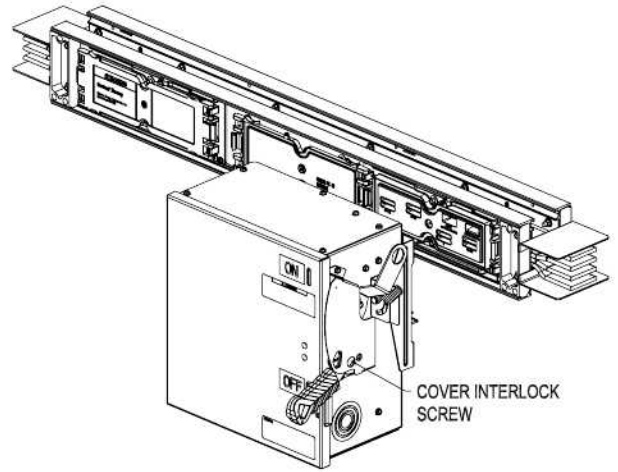

Figure 28. SENTRON SLVB Plug Horizontal Installation
11.1.3.1 SENTRON SLVB Bus Plugs utilize a Horizontal "SLVBH" and Riser "SLVBR" configuration for horizontal and riser applications see Figures 28 and 29.